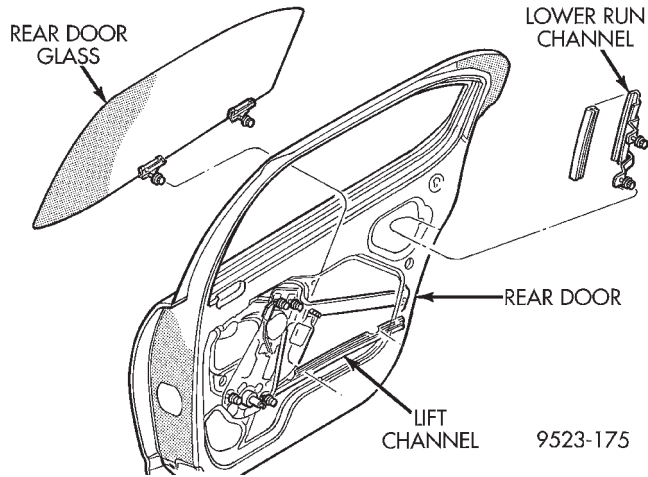

Fig. 55 Rear Door Glass
- (1) Remove door trim panel and inner belt weatherstrip.
- (2) Connect power window switch or install crank and lower window to 50 mm (2 in.) from bottom of travel.
- (3) Loosen bolts holding rear lower run channel to inner door panel (Fig. 55).
- (4) Separate rear run channel from door.
- (5) Loosen screws holding regulator roller channel to glass.
- (6) Slide roller channel rearward to allow screw heads to pass through key hole slots in channel.
- (7) Separate glass from roller channel.
- (8) Lift glass upward and out of the opening at top of door.